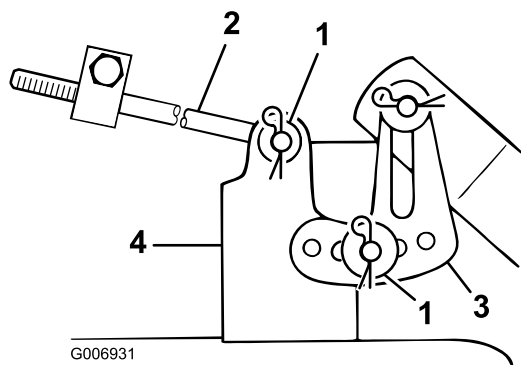

Figure 40
9. Remove the hairpin cotter and washer from the end of the long rod (Figure 40). Slide the rod out of the mower mount.
10. Remove the hairpin cotter and washer at the mower leveling bracket (Figure 40). Slide the bracket off of